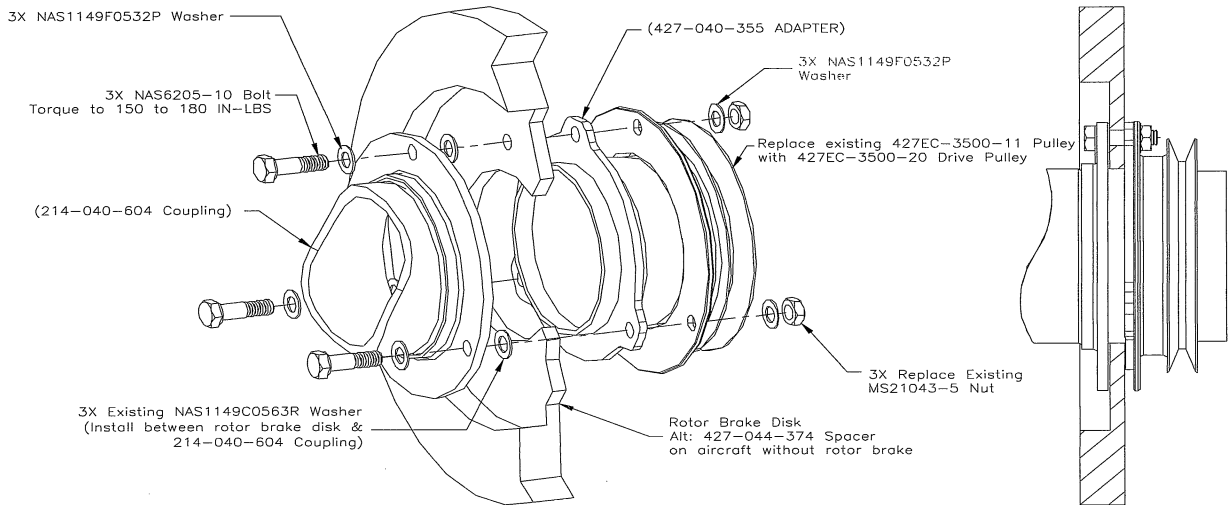

Figure 1.5
8. Remove the attaching hardware from the 427EC-3500-11 Drive Pulley Assy., NAS6205-10 Bolt (3X), MS21043-5 Nut (3X), NAS1149F0532P Washer (3X), NAS1149C0563R Washer (3X), and remove and discard 427EC-3500-11 pulley assembly. (See figure 1.5)